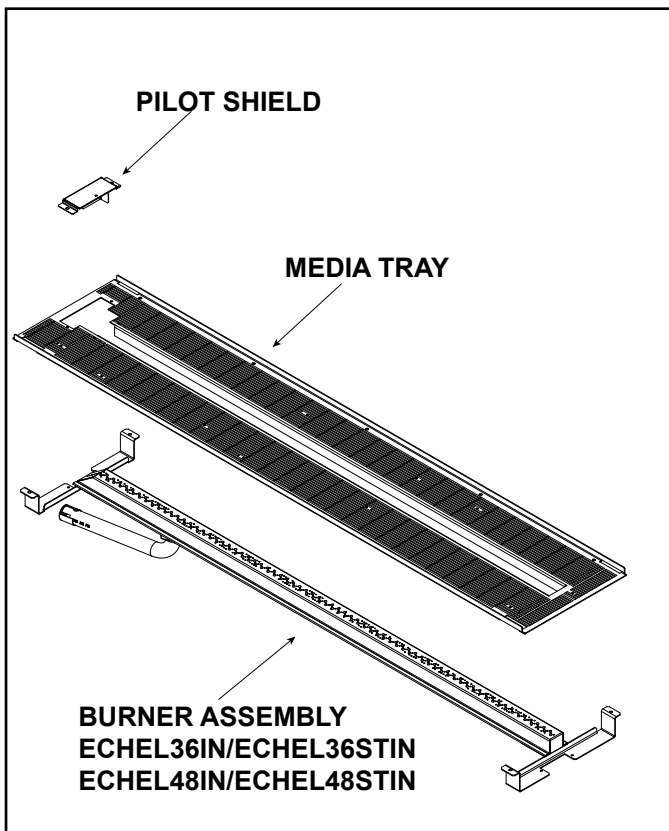

Figure 9.3. Media Tray with Burner and Pilot Shield (ECHEL36IN/ECHEL36STIN/ECHEL48IN/ECHEL48STIN)
7. Remove the media tray. It is attached to the interior firebox bottom with ten screws. See Figure 9.3.
9. Remove the four screws securing the burner to the firebox sides and disengage burner from orifice. Remove burner. See Figure 9.3.